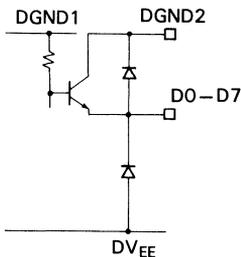

Fig. 4 Digital output
6. Digital Outputs (D0 to D7) (See Fig. 4.)